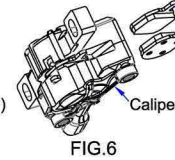
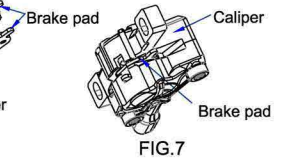

FIG.6
FIG.7
- 3-4 Replace a new pad (as shown in FIG.6) and rotate it back 90 degrees and position. (As shown in FIG.7)